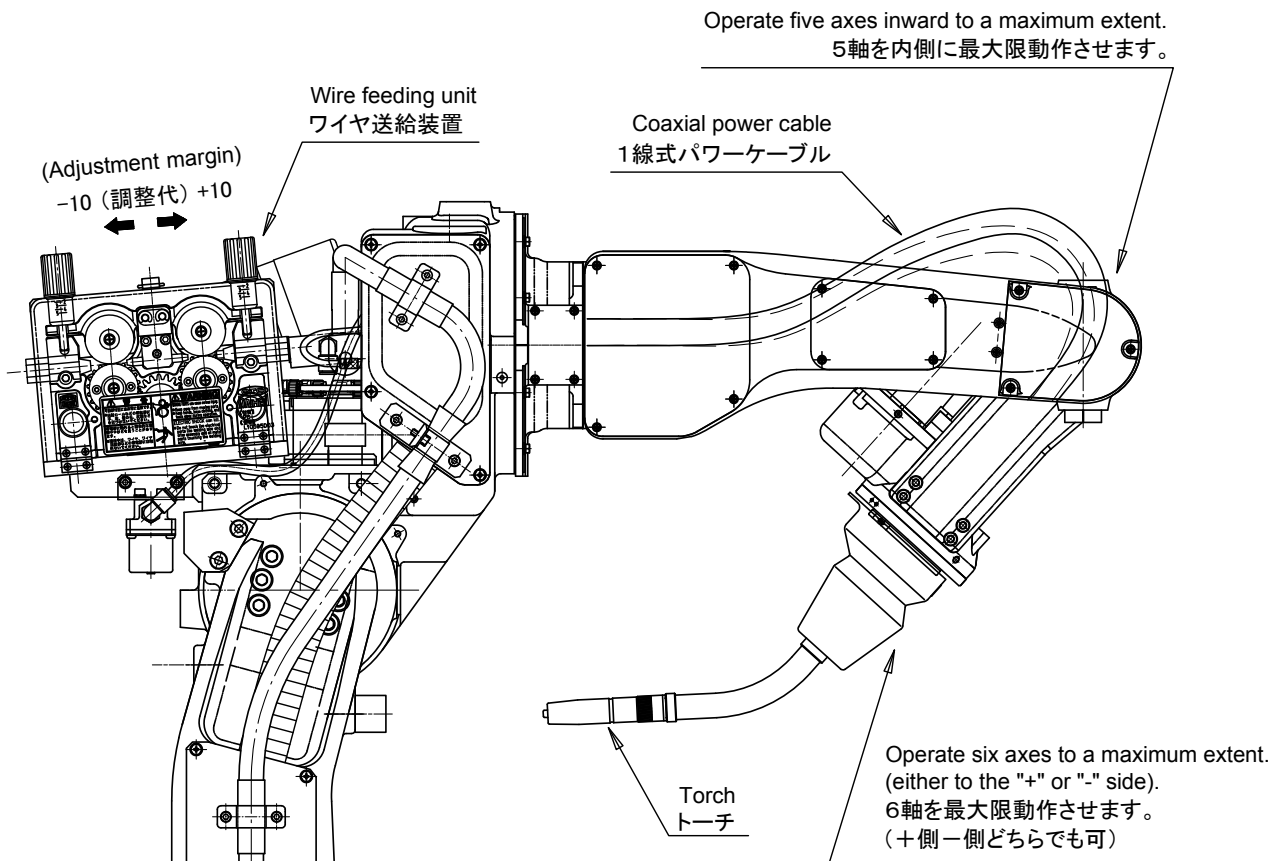

Fig. 2.5 Mounting of manipulator fixing bracket and wire feeding unit (Procedure (5))
- (4) Fix the fixing plate and the mounting bracket with the provided bolts, and then mount the wire feeding unit to the manipulator. At this time, the mounting position can be adjusted in the forward and backward directions. For adjustment, unfasten the hexagon head bolts so that the unit can slide.
- (5) Connect the coaxial power cable to the wire feeding unit. Subsequently, referring to Fig. 2.5, move the 5th and 6th axes to the following position (posture), respectively.
- (6) Referring to Fig. 2.5, adjust and fix the position of the slide plate to the extent that the coaxial power cable does not hit against the cover in the posture described in Step (5) above.